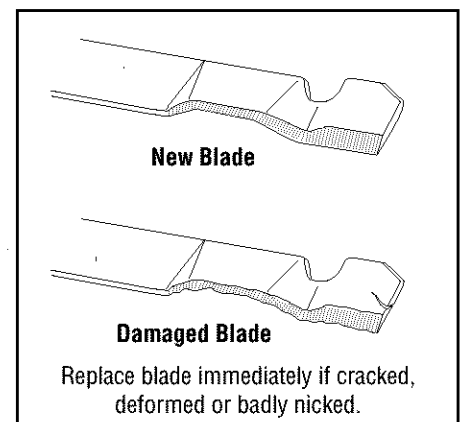

Figure 5-2: Mower blade inspection.
2. Inspect periodically for a dull or slightly nicked blade. Sharpen if needed. Also check for a deformed, cracked, or excessively worn blade (Figure 5-2). Do not use the mower if any of these conditions exist. Replace the blade immediately.